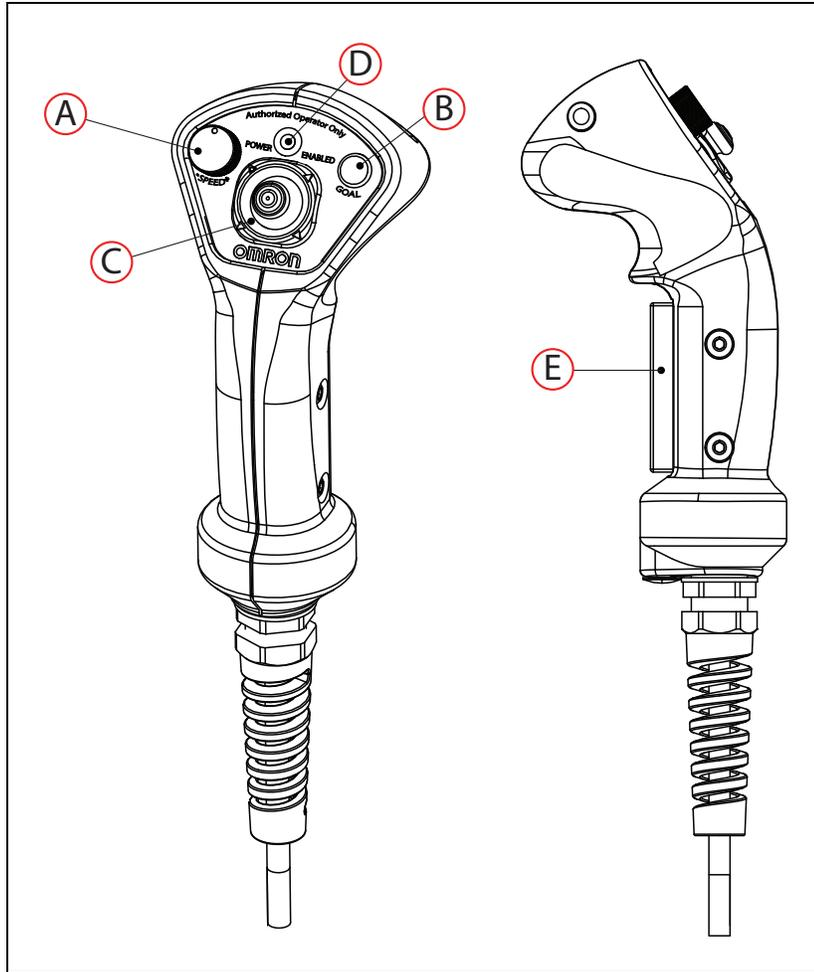

Figure 7-29. Pendant, (A) Speed Control, (B) Goal Button, (C) Directional Control Stick, (D) Power Indicator LED, and (E) Three-Position Enabling Device
The pendant is intended for single-handed operation. Use your fingers to grip the handle, and control the three-position enabling device ((E) in Figure 7-29.), and your thumb to move the directional control stick ((C) in Figure 7-29.).
5. Squeeze and hold the three-position enabling device ((E) in Figure 7-29.) with medium pressure (this will enable high power to the drive motors), and use the directional control stick ((C) in Figure 7-29.) to drive the AMR. See: Table 7-2.
7. Use the speed control switch ((A) in Figure 7-29.) to control the speed of the AMR, and achieve your desired velocity.
Use the pendant's GOAL button ((B) in Figure 7-29.) for marking positions while making a map scan.
The pendant has a power indicator LED ((D) in Figure 7-29.) which gives visual indication of the HD-1500 operating state.